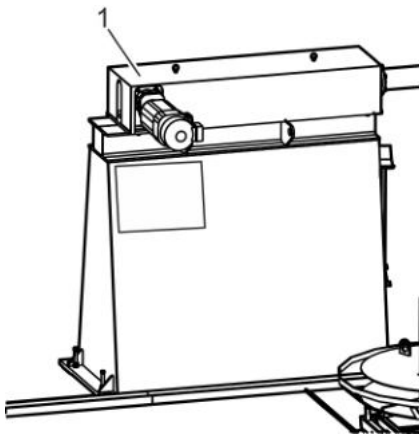

Fig. 84: Spreader drive
2. Remove the cover (Fig. 84/1) of the drive.